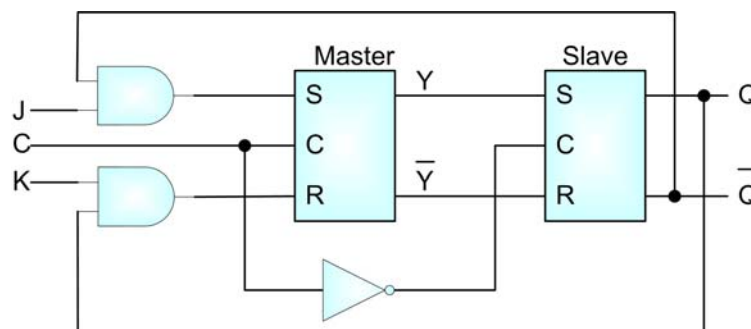

Figure 4: JK Master-Slave Flip-Flop
- A Master-Slave JK Flip-Flop is shown in the Figure 4.